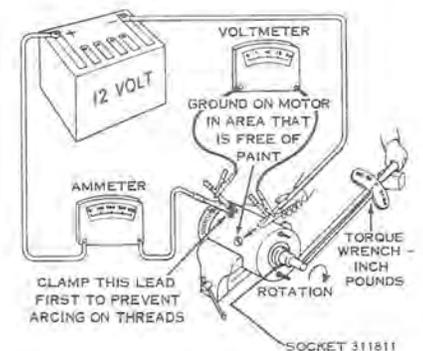

Figure 6-36
- Connect a voltmeter between the starter terminal and motor frame. Using a torque wrench to stall motor armature (see Figure 6-36), connect starter motor through an ammeter to a 12-volt battery.